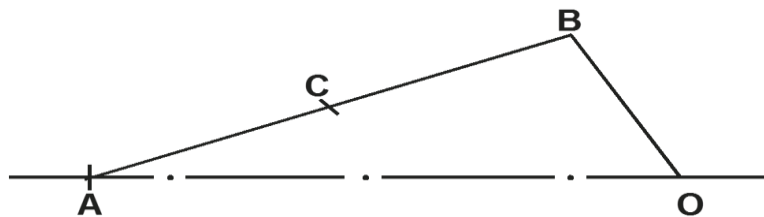

Fig 1
7. Figure 1 shows the layout of a crank mechanism. Draw the locus of point C for one revolution of crank OB. End A of link AB moves along the horizontal centre line. (6 marks)